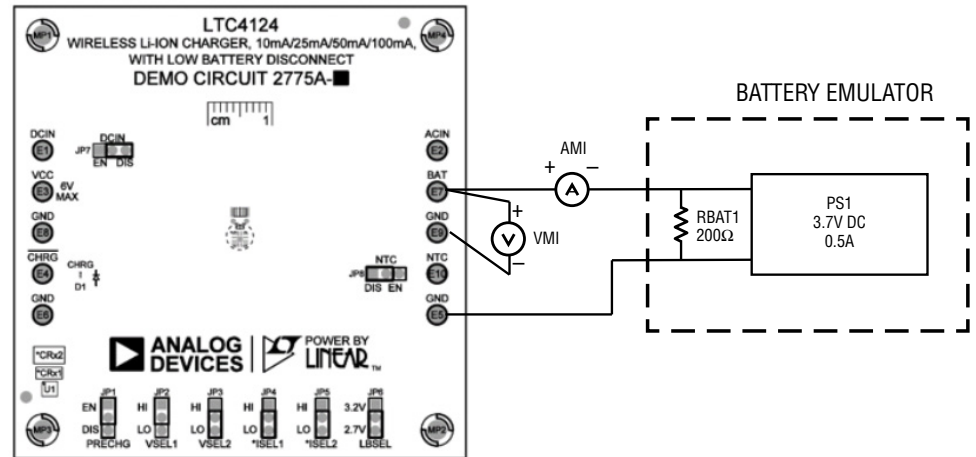

Figure 5. DC2775A-A Top
Refer to Figure 5 to 8 for the proper measurement equipment setup, DC2775A-A mounting on DC2771A-A, and follow the procedure below:
3. Connect a voltage source PS1 and a 200 Ω resistor RBAT1 between the BAT and GND turrets of DC2775A-A, respectively (Figure 5). PS1 and RBAT1 make up the battery emulator. Typical power supplies cannot sink current. By adding a resistor across the power supply inputs that draws more current than the maximum battery charging current, the power supply only sources current even when the battery charge current is at its maximum value.